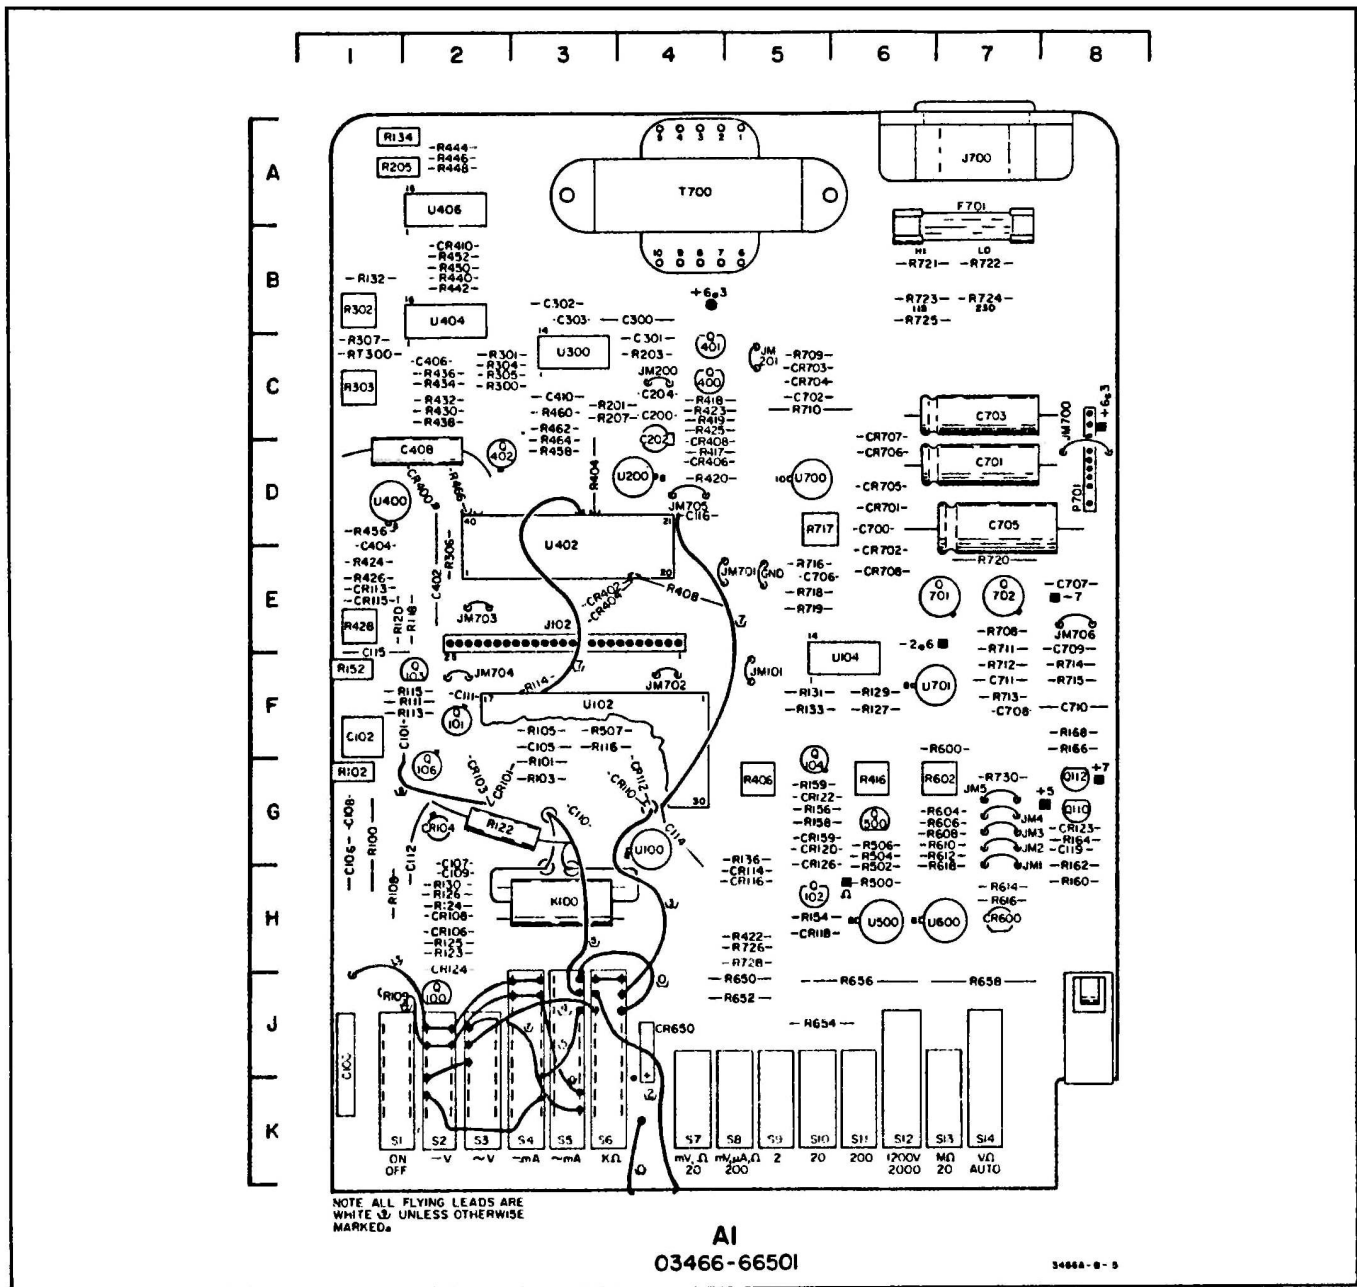

Figure 7-2. Component Locator for Changes #2, 7, and 16
**7-13. Component Locator.** Use component locator shown in Figure 7-2.
**7-26. Component Locator.** Use component locator shown in Figure 7-2. Capacitor C404 is located near U400.
**7-51. Component Locator.** Use component locator in Figure 7-2.